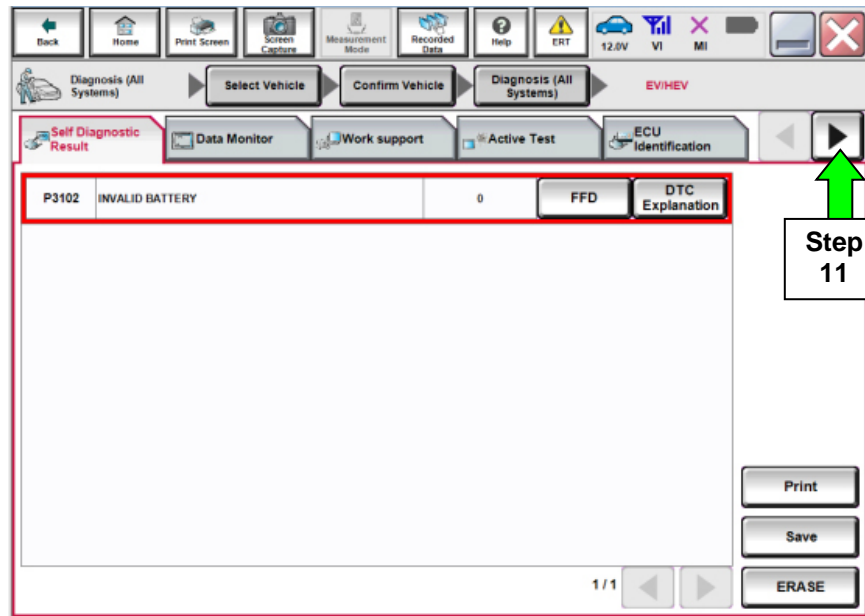

Figure 13
11. Select the “right arrow” (Figure 13).
- If the card is installed, but the arrow in Figure 13 is not available, reboot the CONSULT PC.